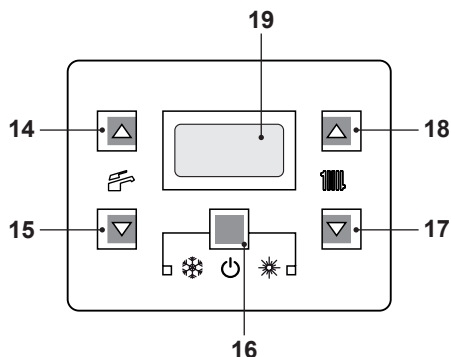
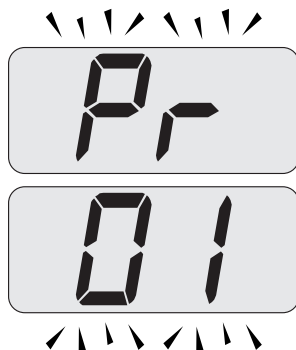
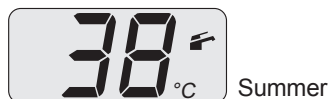

Fig. 10.17
Fig. 10.18
Fig. 10.23
- Enter in "programming mode" by sequentially pressing and holding in keys, 16 - 17 and then 18 (Fig. 10.17) for 10 seconds until the letters **Pr** that alternate with code **01** are displayed on the LCD display, indicating that "parameter 01" (Fig. 10.18) has been activated.
- Press keys 17 and 18 (Fig. 10.17) at the same time until the LCD display displays the letters **LP** that alternate with the heating water temperature value (e.g. **45**), indicating the activation of the "flue sweep function" at minimum output (Fig. 10.19).
- By pressing 18 (Fig. 10.17) it is possible to change power in flue sweep mode: with the letters **hP** on the LCD display which alternate between the heated water temperature (i.e. **32**), we are in the "flue sweep function" at the minimum power during heating (Fig. 10.20).
- Press sequentially keys, 16 - 17 and then 18 (Fig. 10.17) and hold in for 10 seconds to exit the "flue sweep mode" and return to the previously set boiler status (Fig. 10.23).